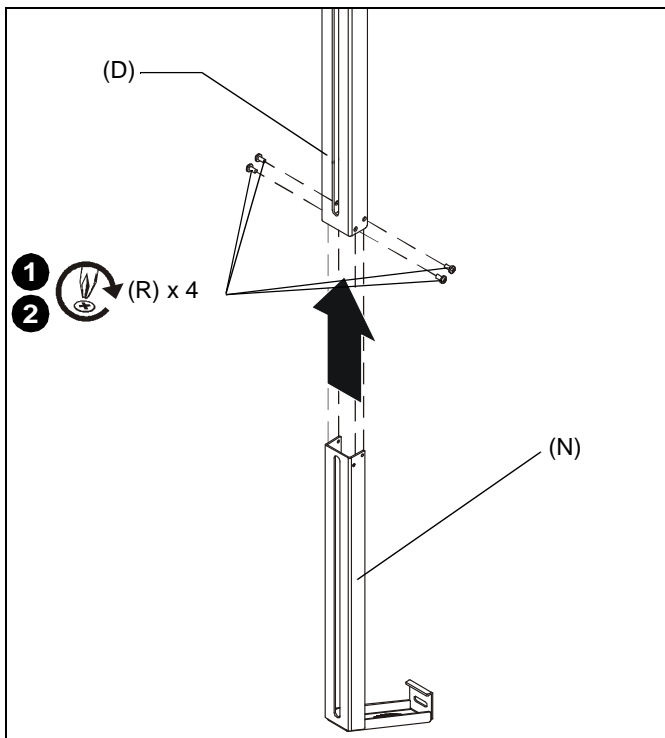

Figure 1
- If the WBM2E uprights will be **attached** to the wall below the existing chalkboard or whiteboard, **proceed to Step 1** and use the fixed wall leg (N).
- If the WBM2E uprights will **rest against** the existing chalkboard or whiteboard, **proceed to Step 4** and use the lower support (T).
1. Attach fixed wall leg (N) to bottom of upright assembly (D) using four M4 x 8mm Phillips screws (R). (See Figure 1)